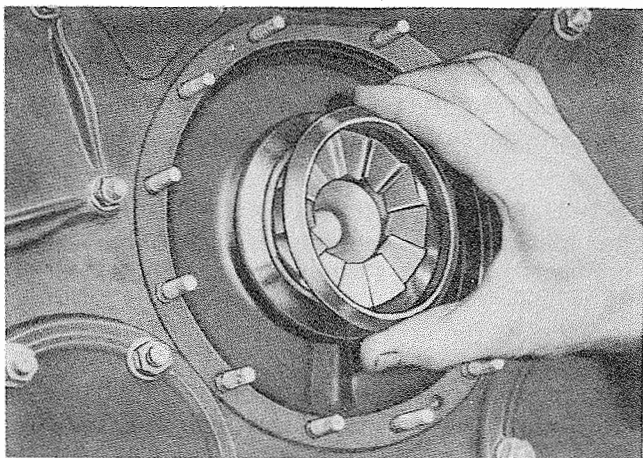

Figure 7-88. Installing Starter Coupling Thrust Ring
b. Apply a light coat of anti-seize compound, Lubriplate 130A, to the starter coupling stop ring and install it. Install the starter coupling and spring. Apply a light coat of anti-seize compound, Lubriplate 130A, on the thrust ring and install it on the coupling. See figure 7-88.